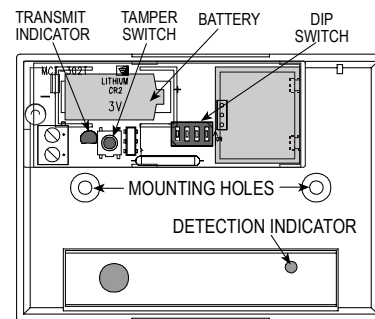

Figure 5. Inside View
- B. Get to know the items indicated in Fig. 5 - they are all relevant to the steps you will have to take in the course of installation.